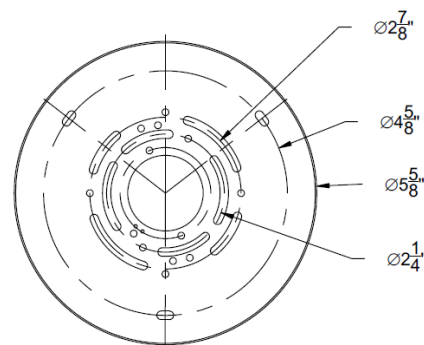

Fig. 2 Wiring
CONNECTING THE WIRES (Fig. 2)
7. Connect the driver's input/output wires with junction box wires as shown (Fig. 2). Make sure that all wire connectors (A) are secure. If your outlet box has a green or bare copper ground wire, connect the fixture's ground wire to it. Otherwise, connect the fixture's ground wire directly to the back plate using the green screw provided. After wires are connected, tuck them carefully inside the junction box.